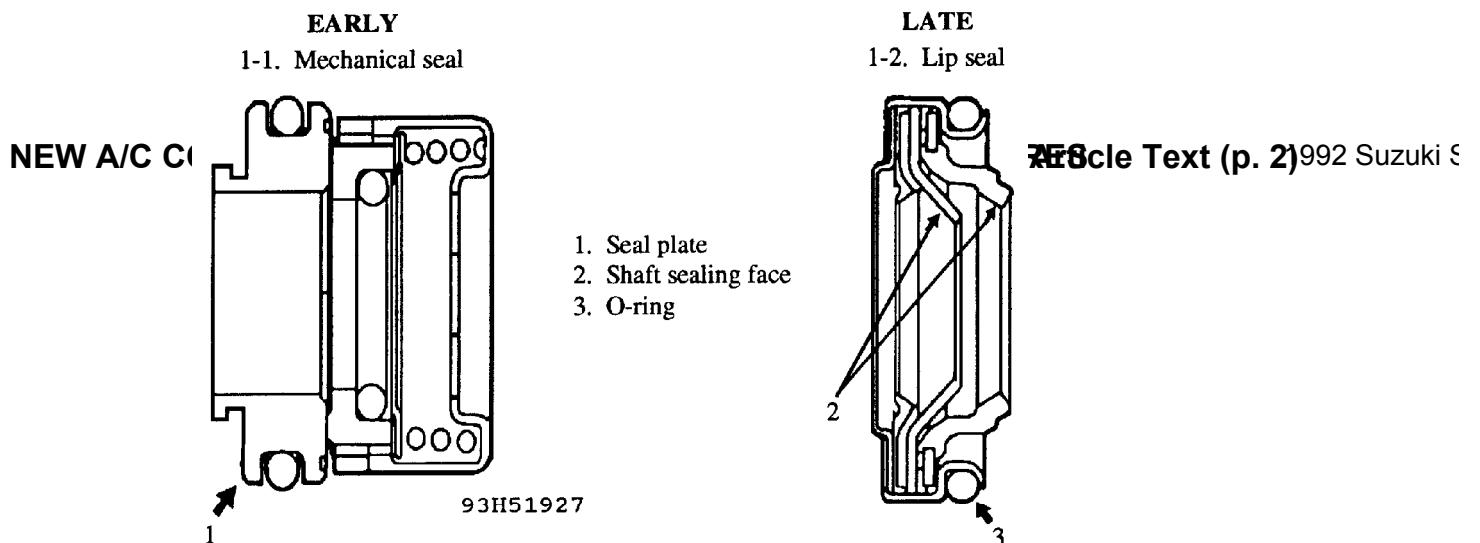

Fig. 3: Modified Shaft Seal Assembly
- B. Compressor (see Fig. 3)
1. Shaft seal assembly (Fig. 3 shows early and late style seals).